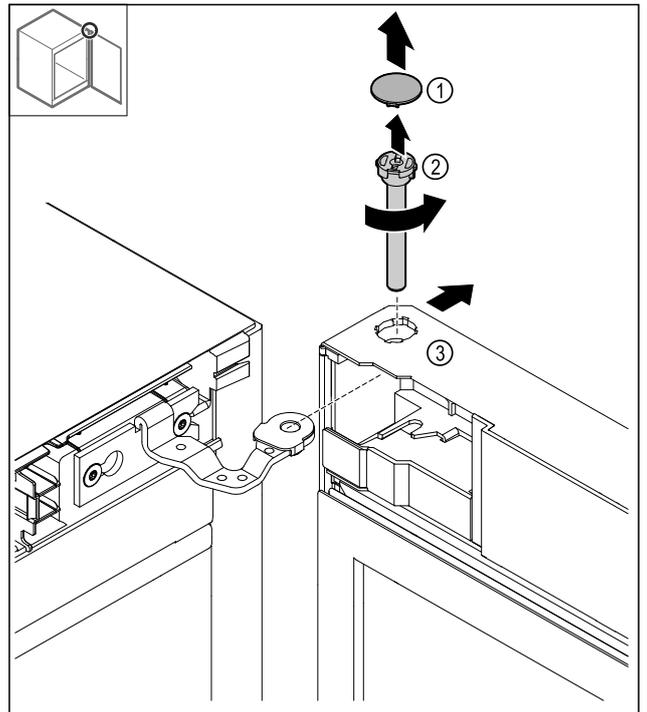

Fig. 13
- ▶ Removing the cover Fig. 13 (1).
- ▶ Loosen the bolt Fig. 13 (2) anti-clockwise and pull it out.
- ▶ Tilt the door Fig. 13 (3) slightly.